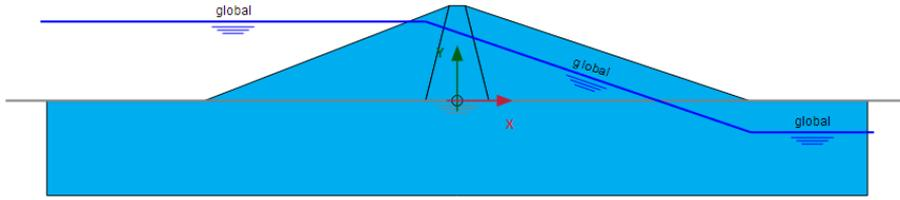

Figure 8.4 High water level in the reservoir
- Define the water level corresponding to the level of water in the reservoir prior to the drawdown. The water level consists of four points; starting at the very left side at a level of 25 m above the ground surface (-132.0 25.0); the second point is just inside the dam at a level of 25 m (-10.0 25.0); the third point is near the dam toe (93.0 -10.0) and the fourth point just outside the right boundary at a level of 10 m below the ground surface (132.0 -10.0). The defined water level is shown in Figure 8.4.